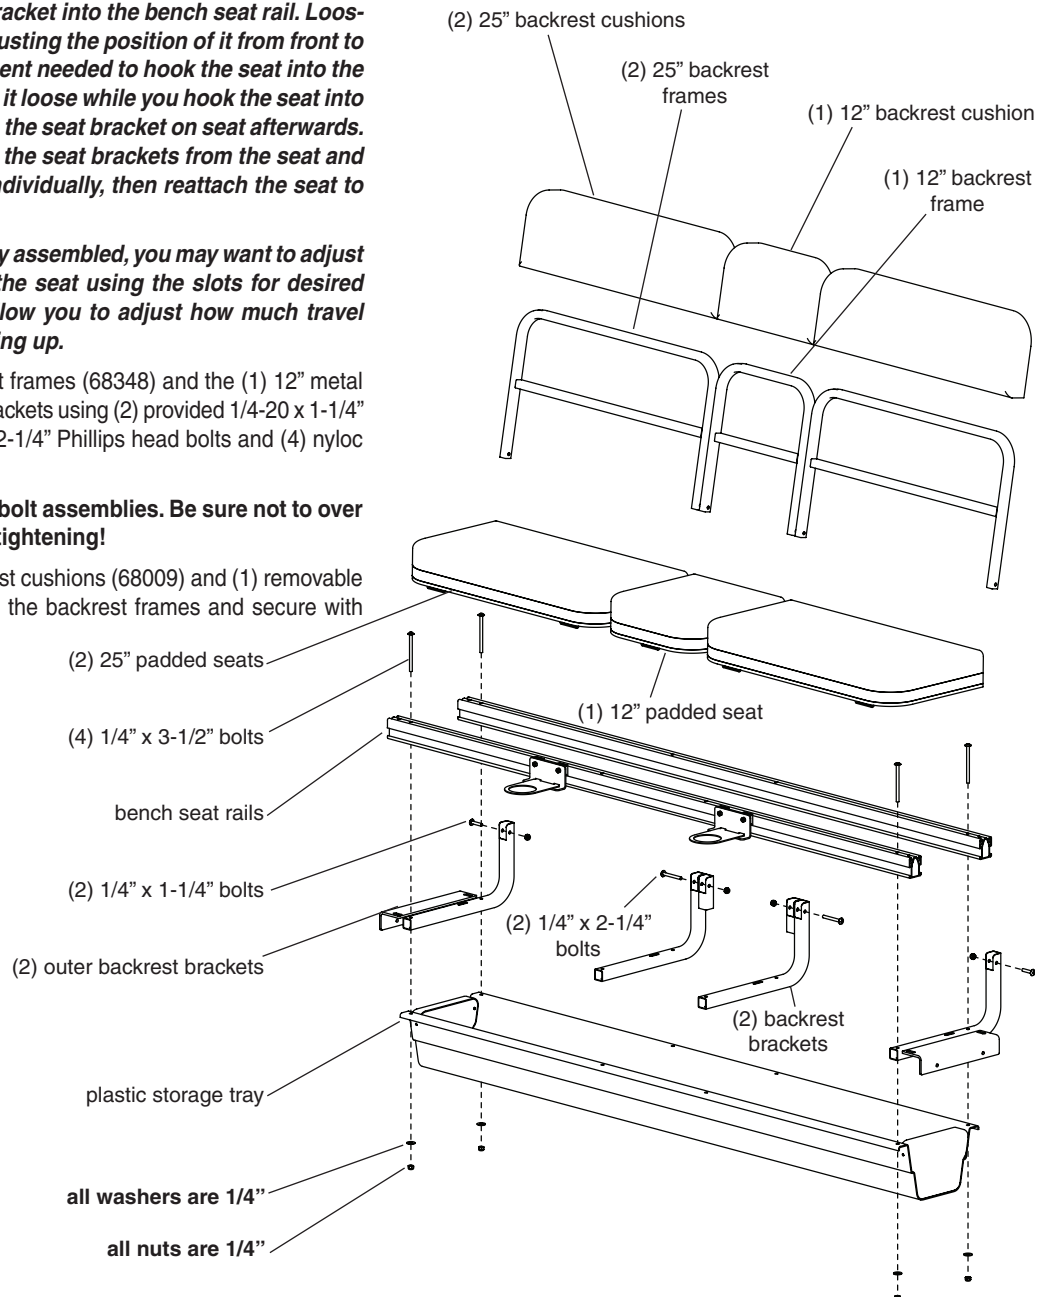

FIGURE 4
10. Attach the (2) 25" outer seat bottom frames (68322) and the plastic storage tray to the bench seat rails using (4) provided 1/4-20 x 3-1/2" Phillips head bolts, nyloc nuts and washers. **SEE FIGURE 4.**
12. Attach the (2) 25" metal backrest frames (68348) and the (1) 12" metal backrest frame to the backrest brackets using (2) provided 1/4-20 x 1-1/4" Phillips head bolts, (2) 1/4-20 x 2-1/4" Phillips head bolts and (4) nyloc nuts. **SEE FIGURE 4.**
14. Attach (2) removable 25" backrest cushions (68009) and (1) removable 12" backrest cushion (68008) to the backrest frames and secure with Velcro.